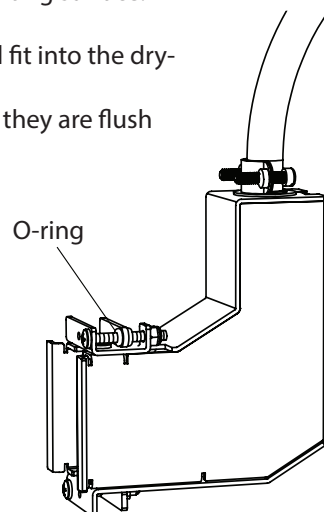

Fig. 2
8. Flip **wing tabs** inward so that the Minibox will fit into the drywall opening. (Fig. 2)
11. Flip wing tabs inward so that the Minibox will fit into the dry-wall opening. (Fig. 2)
12. Slide **O-rings** along mounting screws so that they are flush against the wing tabs. (Fig. 2)